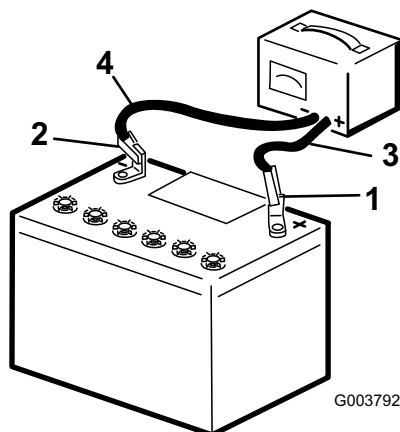

Figure 4
3. Connect a charger to the battery (Figure 4) and charge it for a minimum of 1 hour at 6 to 10 amps. Do not overcharge the battery.
4. When the battery is fully charged, unplug the charger from the electrical outlet, then disconnect the charger leads from the battery posts (Figure 4).